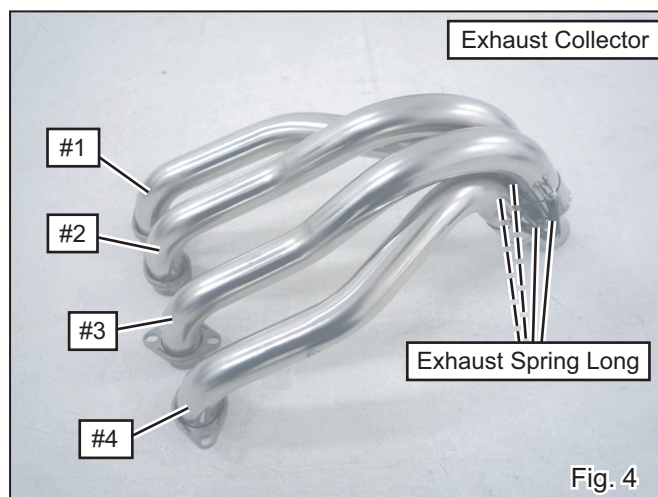

Fig. 4
- 5) Check the numbers of stickers on Exhaust Collector and install Exhaust Pipes in the right place from #4 >>> #3 >>> #1 >>> #2 in order. Then fit chips on Exhaust Pipes #1 and #3 to recesses on Exhaust Collector, adjust the positions of Exhaust Pipes #1 and #4 to engine wide and install 4 of Exhaust Spring Long. (See Fig. 4)